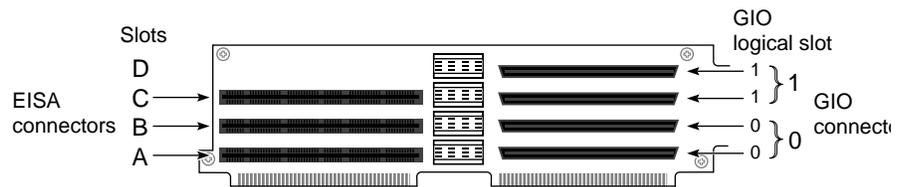
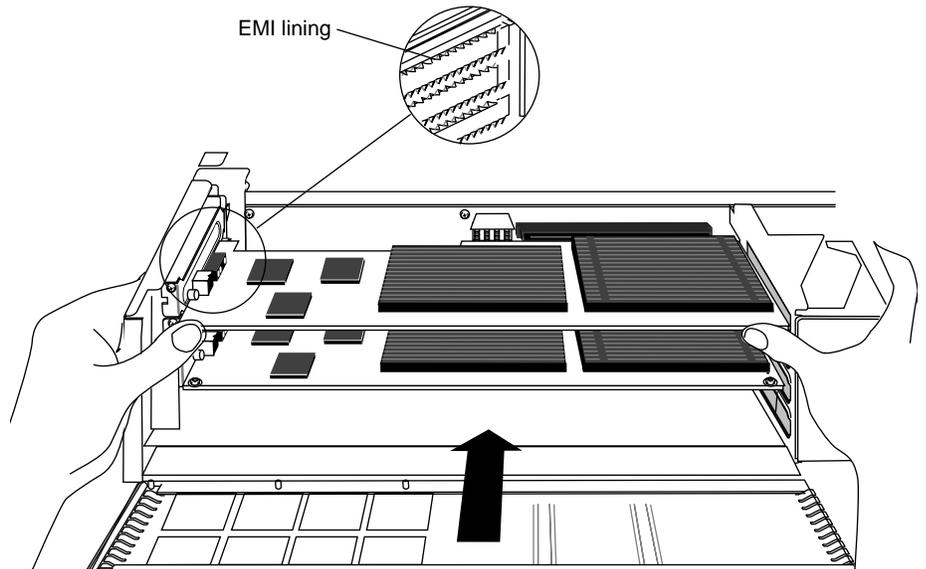

Figure 5-11 Identifying Board Slots
Figure 5-12 Inserting the Solid IMPACT Graphics Board
2. Place your Solid IMPACT board (that was in Slot B) in Slot D. See Figure 5-12.
1. Place your Solid IMPACT board (that was in Slot D) in Slot B. See Figure 5-11 and Figure 5-12.